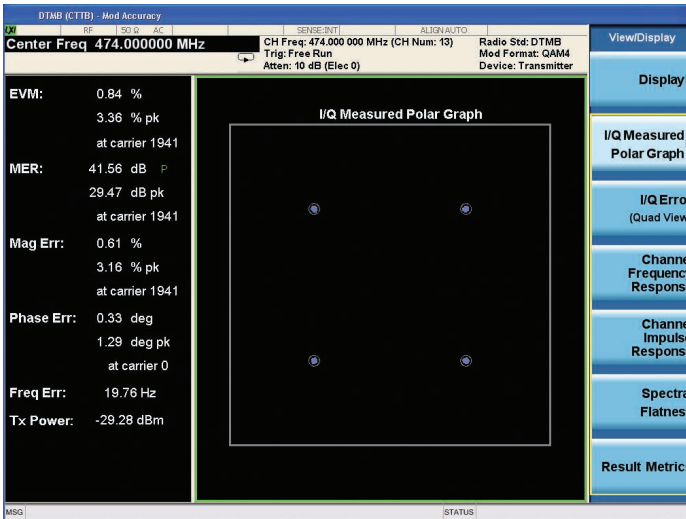

Figure 14. Modulation accuracy measurement with I/Q measured polar graph view
- **I/Q measured polar graph** view (Figure 14): This is a two-window view. For multi-carrier mode, I/Q measured polar data trace can be calculated on selected sub-carriers.
Activate modulation accuracy measurement (I/Q measured polar graph default, Figure 14)	[Meas] {Mod Accuracy}